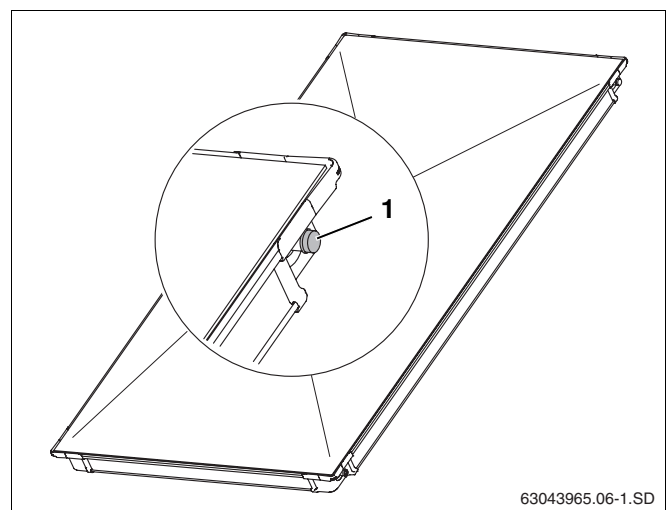

Fig. 5 Plastic caps on collector connections
- Do not remove the plastic caps (Fig. 5, **Item 1**) until immediately prior to installation.